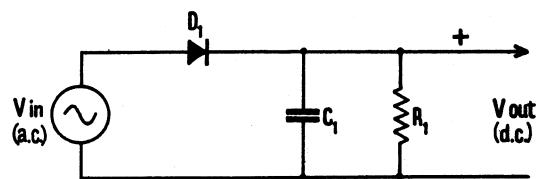
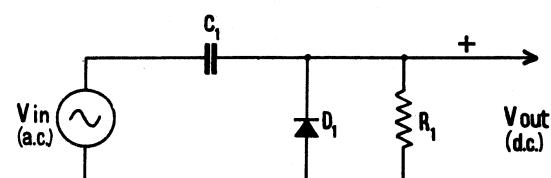

Fig. 3 Peak Detector (series configuration).
Fig. 4 Peak Detector (parallel configuration).
**Peak Voltage Detectors** Fig. 3 shows the basic form of a series-diode peak voltage detector. For efficient operation it is essential that the time constant  $T = C_1 R_1$  is high compared with the a.c. waveform period. When the input voltage initially goes positive  $D_1$  conducts, and  $C_1$  is charged to the positive peak potential. As soon as the input voltage begins to decrease the diode cuts off, and remains in the non-conducting condition until the input voltage again approaches its positive peak value on the next cycle.
The rearrangement of the detector circuit in Fig. 4. is really nothing more than the transfer of  $R_1$  to a position in parallel with the diode. If the mean voltage at the input is zero, the voltage across the diode must be equal to the voltage across the capacitor, so that  $V_{out}$  may be taken across either.
In the configuration of Fig. 4 the diode conducts initially when the input voltage goes negative, and  $C_1$  charges to the negative peak voltage. Immediately the input voltage begins to go positive the diode cuts off so that the voltage across  $R_1$  is equal to the instantaneous input voltage plus a d.c. voltage equal to the negative peak of the a.c. A voltage waveform thus appears across
Theoretically, with the series circuit this resistance is equal to  $R_1/2$  if it is assumed that  $V_{out}$  (d.c.) is equal to  $V_{in}$  (peak). It can be reasoned that, if the d.c. voltage developed across  $R_1$  of Fig. 3 is equal to the peak a.c. input voltage, the power in  $R_1$  is equal to  $V_{peak}^2/R_1$ . This is the power drawn from the source, and must, therefore, be equal to  $V_{r.m.s.}^2/R_{in}$ . For a sinewave  $V_{peak}^2 = 2V_{r.m.s.}^2$ , so that  $R_{in} = R_1/2$ .
With the arrangement shown in Fig. 4, however,  $R_1$  is also connected directly across the source so that a.c. power is also dissipated in this resistor. This is equivalent to connecting the value of  $R_1$  in parallel with the input resistance as derived for Fig. 3. So the effective input resistance of Fig. 4 is theoretically  $R_1/3$ .